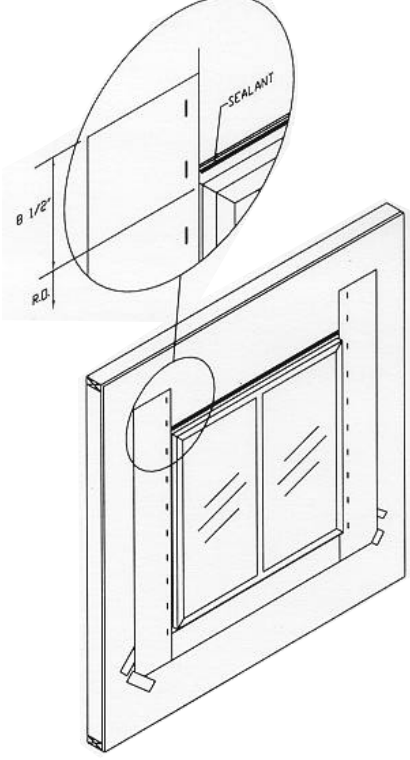

Figure 5 Sealant applied at head of window (Method "A")
1. Apply a bead of sealant at the head (over the face of the mounting flange) of the installed window, directly over the fasteners and/or pre-punched holes (see Figure 5). Do not extend the bead of sealant beyond the jamb mounting flange. Press head flashing into the sealant bead previously applied until the sealant appears along the bottom edge. This should remove any voids or air pockets behind the flashing.